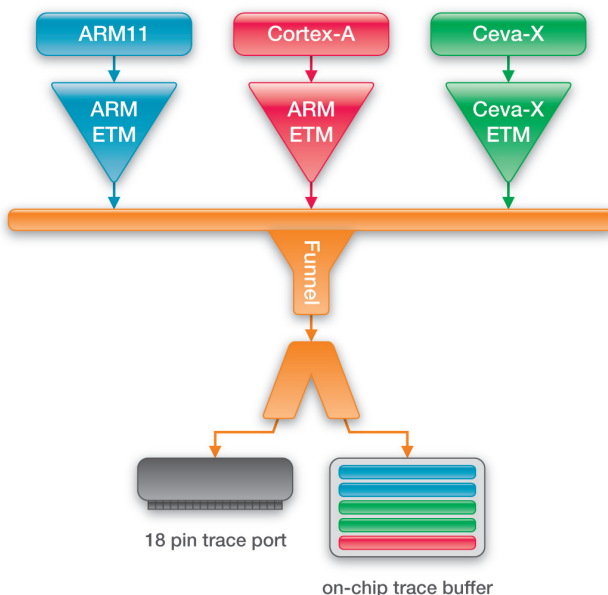

Fig. 3: Every core generates its own trace information
- Ceva-X ETM for the Ceva-X (see also Figure 3)